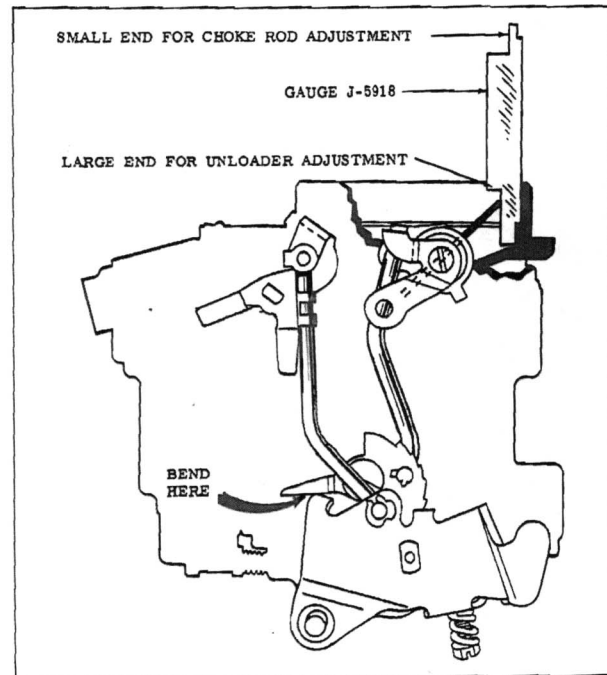

Fig. 42 Unloader Adjustment
2. Using large end of Tool J-5918, check clearance (9/64") between top of choke valve and inner wall of air horn as shown in Fig. 42.